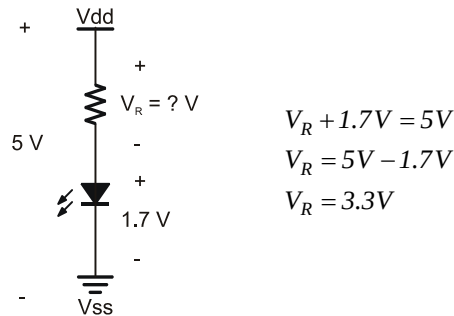

Figure B-2
Figure B-2 shows how to calculate the voltage across the resistor. The voltage supplied is on the left; it's 5 V. The voltages used by each component are to the right of the circuit. The voltage we don't know at the start is V_R , the voltage across the resistor. But, we do know that the voltage across the LED is going to be about 1.7 V (the red light emitting diode's forward voltage). We also know that the voltage across the parts has to add up to 5 V because of Kirchhoff's Voltage Law. The difference between 5 V and 1.7 V is 3.3 V, so that must be the voltage across the resistor V_R .
How much current is 7.02 mA? It's the amount of current the LED circuit in Figure B-2 conducts. You can replace the 470 Ω resistor with a 220 Ω resistor, and the circuit will conduct about 15.0 mA, and the LED will glow more brightly. If you use a 1000 Ω resistor, the circuit will conduct 3.3 mA, and the LED will glow less brightly. A 2000 Ω resistor will cause the LED to glow less brightly still, and the current will be 1.65 mA.
- ✓ Repeat the exercise in Figure B-2, but use $V_{in} - V_{ss} = 9\text{ V}$ instead of $V_{dd} - V_{ss} = 5\text{ V}$.